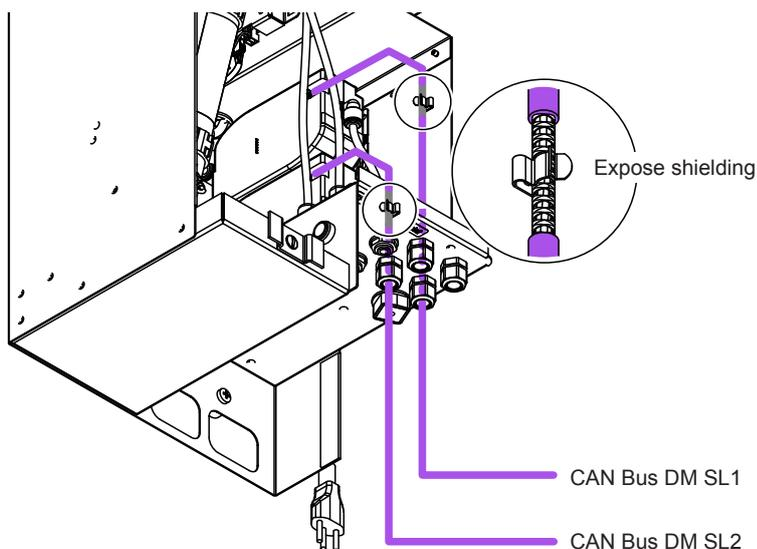

Fig. 48: Connecting CAN bus cables for spray loop 1 and spray loop 2 to the drain modules
5. Connect the CAN bus cables from spray loop 1 and, if present from spray loop 2 to the corresponding drain module (DM) in the central unit according to Fig. 48.